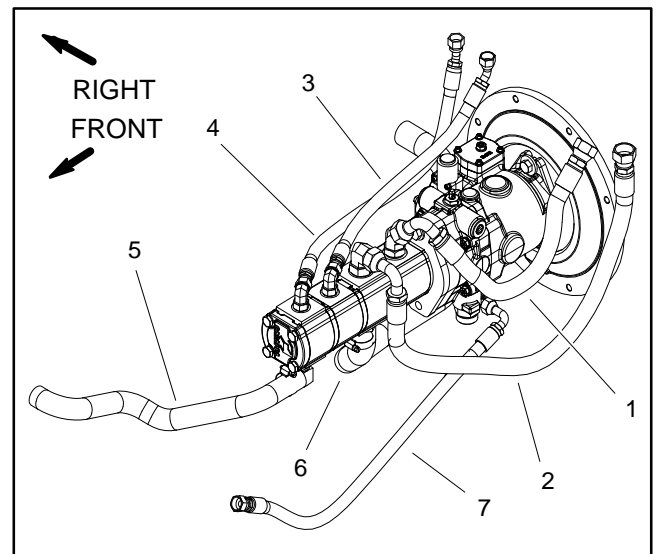

Figure 52
6. Disconnect hydraulic lines from gear pump and put caps or plugs on open hydraulic lines and fittings. Label disconnected hydraulic lines for proper assembly (Fig. 52).
8. Remove two (2) cap screws and washers securing gear pump to piston pump. Remove gear pump, coupler (item 9), spacer (item 17) and O-rings (item 16) from machine.